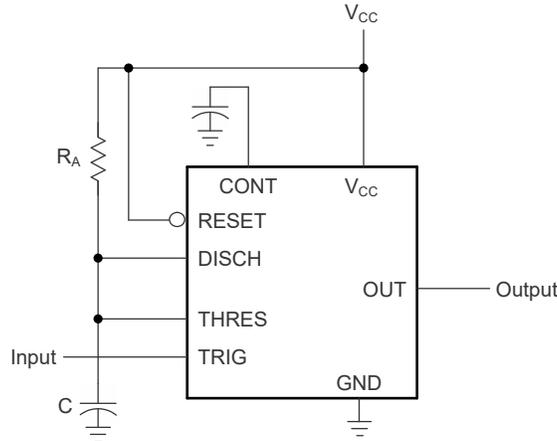

Figure 6-2. Circuit for Monostable Operation
- (1) For conditions shown as MIN or MAX, use the appropriate value specified under *Recommended Operating Conditions*.
- (2) Values specified are for a device in a monostable circuit similar to Figure 6-2, with the following component values: $R_A = 2\text{k}\Omega$ to $100\text{k}\Omega$, $C = 0.1\mu\text{F}$.
For monostable operation, **Figure 6-2** shows how to connect any of these timers. If the output is low, application of a negative-going pulse to the trigger (TRIG) sets the flip-flop (\bar{Q} goes low), drives the output high, and turns off Q1. Capacitor C is then charged through R_A until the voltage across the capacitor reaches the threshold voltage of the threshold (THRES) input. If TRIG has returned to a high level, the output of the threshold comparator resets the flip-flop (\bar{Q} goes high), drives the output low, and discharges C through Q1.
Figure 6-5 shows that adding a second resistor, R_B , to the circuit of Figure 6-2 and connecting the trigger input to the threshold input causes the timer to self-trigger and run as a multivibrator. Capacitor C charges through R_A and R_B and then discharges through R_B only. Therefore, the duty cycle is controlled by the values of R_A and R_B .
By adjusting the length of the timing cycle, the basic circuit of Figure 6-2 can be made to operate as a frequency divider. Figure 6-8 shows a divide-by-three circuit that makes use of the fact that retriggering cannot occur during the timing cycle.
See Figure 6-2